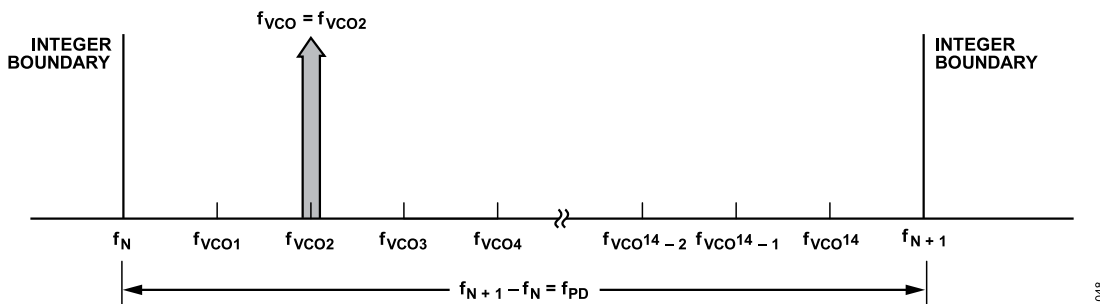

Figure 26. Exact Frequency Tuning
f_{VCOk} is the channel step frequency, $0 < k < 2^{24} - 1$, as shown in Figure 26.
Some fractional PLLs are able to achieve these exact frequencies by shortening the length of the phase accumulator (the denominator or the modulus of the Δ - Σ modulator) so that the Δ - Σ modulator phase accumulator repeats at an exact period related to the interval frequency ($f_{VCOk} - f_{VCO(k-1)}$) in Figure 26. Consequently, the shortened accumulator results in more frequent repeating patterns
When multiple, equally spaced, exact frequency channels are needed that fall within the same interval (that is, $f_N \leq f_{VCOk} < f_{N+1}$) where f_{VCOk} is shown in Figure 26 and $1 \leq k \leq 2^{14}$, it is possible to maintain the same Integer N register (Register 0x03) and exact frequency register (Register 0x0C) settings and only update the fractional register (Register 0x04) setting. The exact frequency channel mode is possible when Equation 16 is satisfied for at least two equally spaced adjacent frequency channels, that is, the channel step size.
To configure the ADF5610 for exact frequency channel mode, initially and only at the beginning, the Integer N register (Register 0x03) and exact frequency register (Register 0x0C) must be programmed for the smallest f_{VCO} frequency (f_{VCO1} in Figure 26). Calculate and program the integer register setting by
where f_{VCO1} is shown in Figure 26 and corresponds to the minimum channel VCO frequency. Then, the lower integer boundary frequency is given by $f_N = N_{INT} \times f_{PD}$.
f_{VCO1} , as shown in Figure 26, represents the smallest channel VCO frequency that is greater than f_N .
- To change from Channel 1 ($f_{VCO1} = 2800.2 \text{ MHz}$) to Channel 2 ($f_{VCO2} = 2800.3 \text{ MHz}$), only Register 0x04 must be programmed, as long as all of the desired exact frequencies (f_{VCOk} , see Figure 26) fall between the same Integer N boundaries ($f_N < f_{VCOk} < f_{N+1}$). In that case,